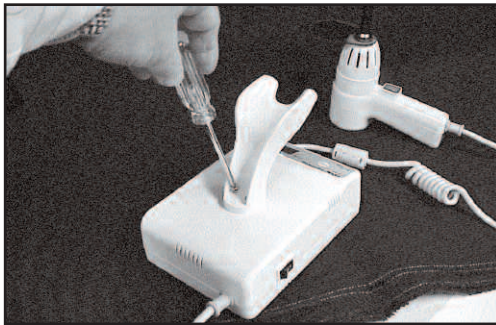

FIG. 2
- (1) Operator's Manual
- C. Locate the handpiece holder and two screws. Attach the handpiece holder to the top of the base with the two screws. (See Fig. 2, below.)